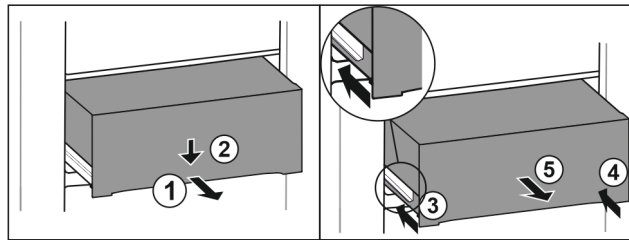

Fig. 121
- ▶ Pull out drawer half-way. Fig. 121 (1)
- ▶ Push the drawer down at the front. Fig. 121 (2)
- ▶ Push the left rail in by about 2 cm. Fig. 121 (3)
- ▶ Push the right rail in by about 2 cm. Fig. 121 (4)
- ▶ Remove drawer to the front. Fig. 121 (5)